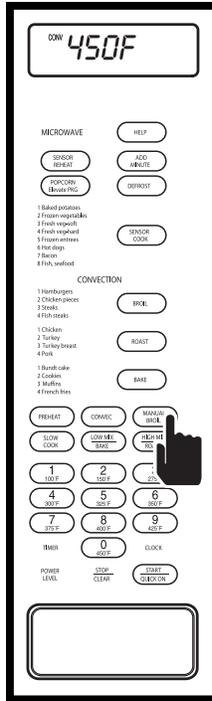

Figure 3-81.
1. Press MANUAL BROIL key, “450F -ENTER - COOKING - TIME ” will flash on display. (See Figure 3-81)